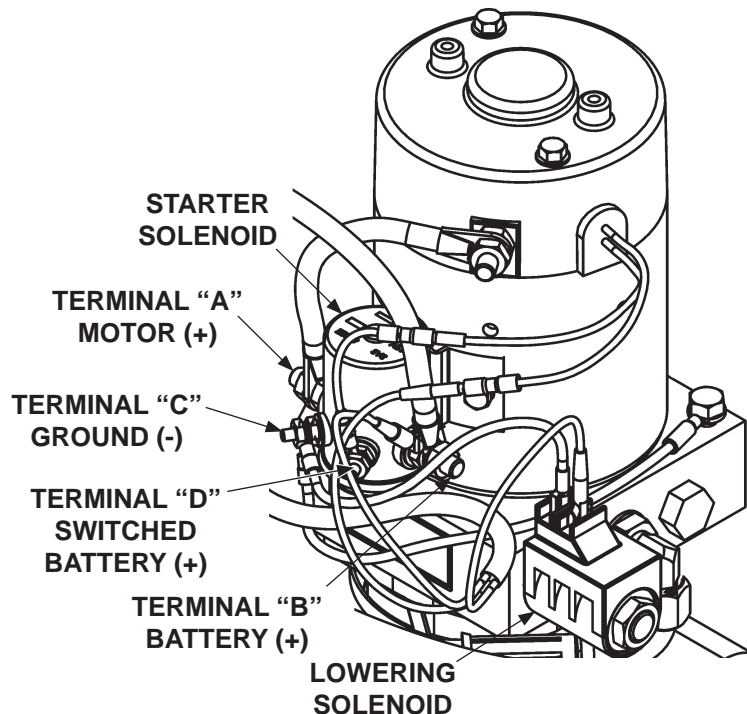

FIG. 44-1
1. Use voltmeter to verify power is being supplied to solenoid terminal "B" (FIG. 44-1). Recharge the battery if there is less than 12.6 volts.
3. Touch a jumper wire to terminals "B" & "D" (FIG. 44-1). If motor runs, check switch, switch connections, and white wire. Check and correct wiring connections or replace the switch.
4. Touch heavy jumper cables to terminals "A" & "B" (FIG. 44-1).